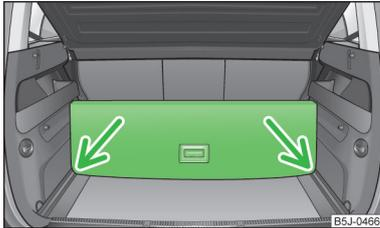

Fig. 68
- Lift up the part of the loading floor with the grip and secure it by sliding it into the grooves marked with the arrows » Fig. 68.